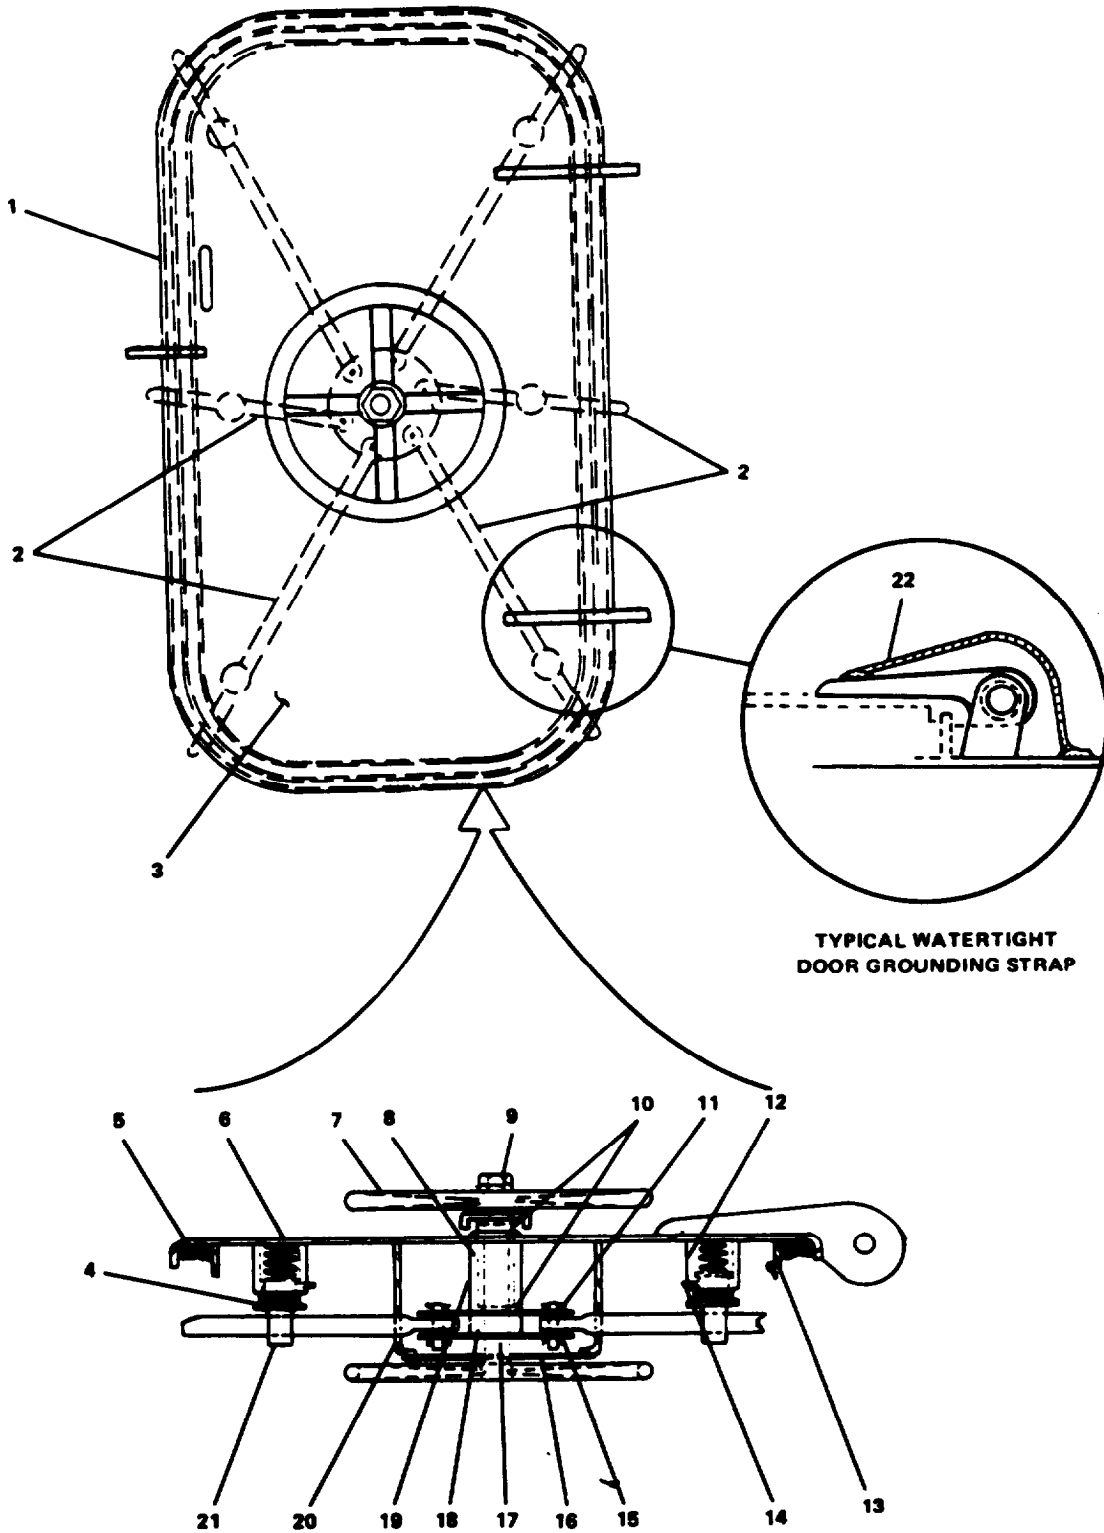

FIGURE 2-173. Repair Watertight Door, Quick Action, Left Hand (30 x 66).
- a. Remove cotter pins (15, FIGURE 2-173) and cylindrical pins (11) from dog arms (2).
- b. Loosen setscrews (14) and remove dog arms (2) with guides (21) and bushings (4).
- c. Remove helical compression springs (6) from door (1).
- d. Remove hex nuts (9) and handwheel (7).
- e. Remove handwheel and shaft (17) from door.
- f. Remove shim (18), brass bushings (10), and preformed packing (8) from handwheel shaft (17).